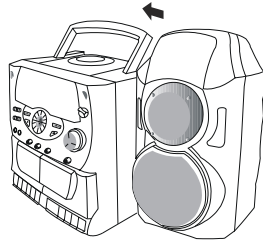

FIG.1
2. Align the rails of the speaker box with the main set as shown in FIG.1.